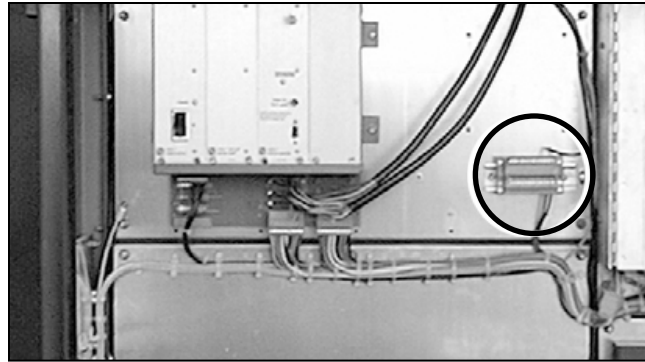

Figure 94. Attaching the ground wires to the terminal block.
- (f) There will be up to three pairs of ground wires, VS-G1 and VS-G2, that are included in the main enclosure. See the wiring diagram for details. Attach the ground wires to the terminal block specified in the drawings provided, and fully tighten the set screws. See Figure 94.